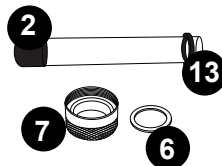

Figure 6
6. Remove the quartz seal compression nut (7) by turning it counterclockwise, Figure 3. Use a pair of channel-lock pliers if needed, Figure 5. You will notice that there is a stainless steel compression washer (6) that slides over the quartz tube. Save the washer (6) for later use, Figure 6. There is also a black seal ring (13), grasp the black seal ring; slowly and carefully remove the quartz tube.